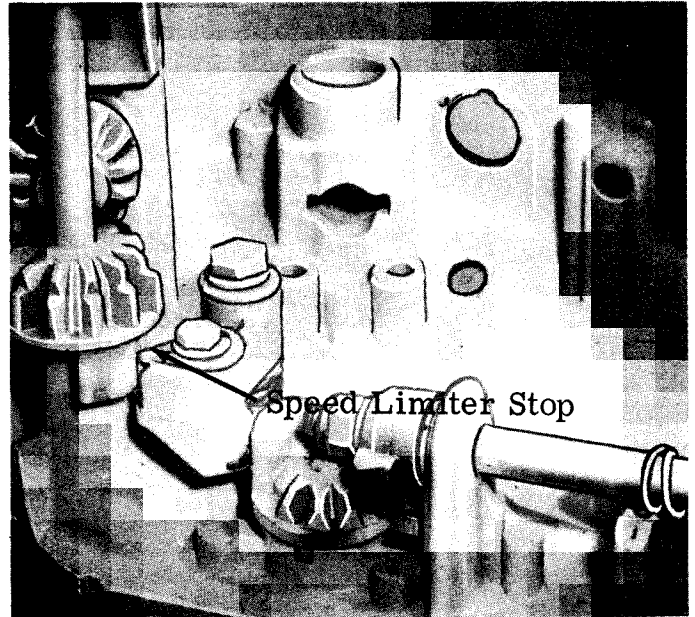

Figure 5. Neutral RPM Adjustment
2. Adjust neutral speed limiter stop to obtain a maximum speed of 2400-2700 RPM. (Figure 5)